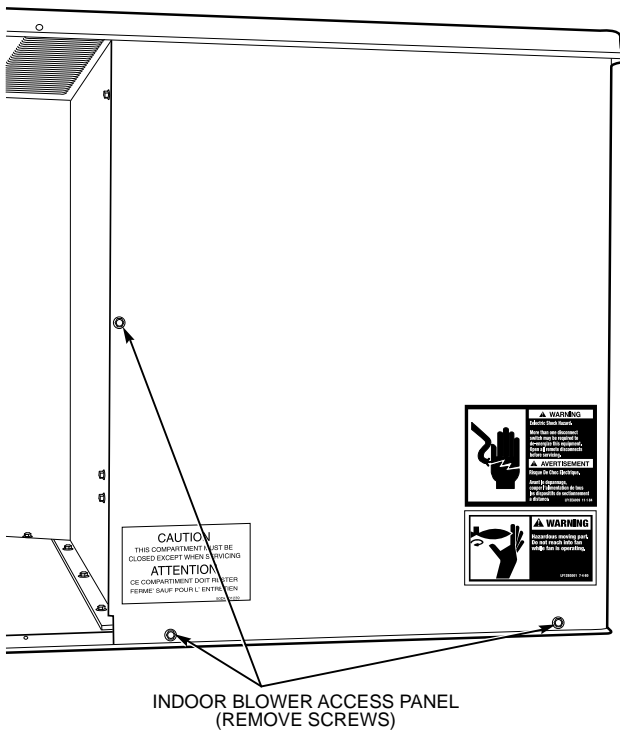

Fig. 18 — Indoor Blower Access Panel
5. Remove indoor blower access panel (Fig. 18).
5. Remove evaporator blower access panel (Fig. 18).